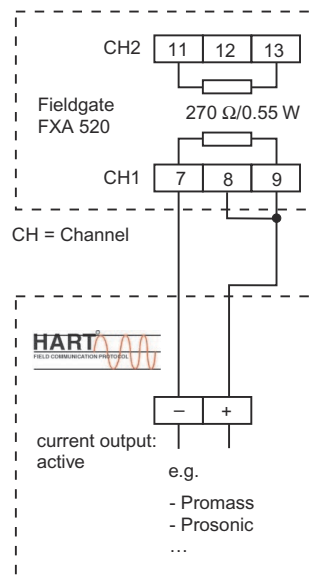

Fig. 4-8: Wiring of 4-wire HART devices
- For 4-wire HART devices, see Fig. 4.8)